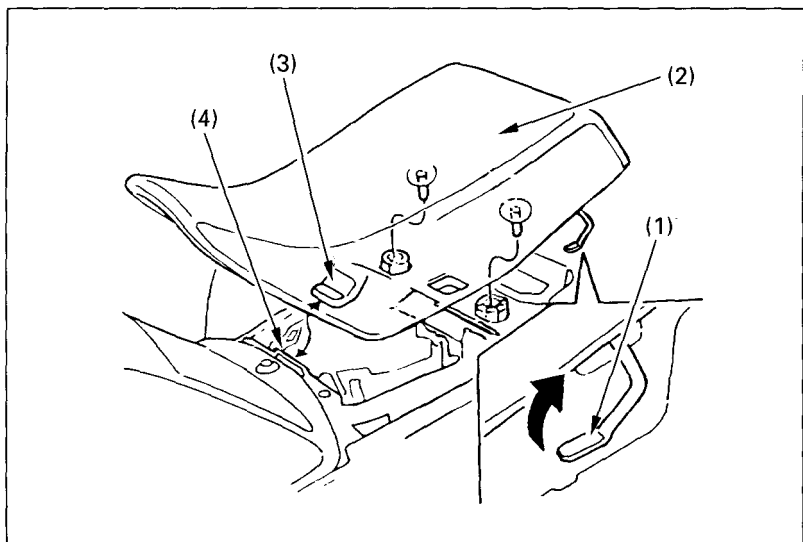

Fig. 4-35
To remove the seat (Fig. 4-35), pull up the seat lock lever (1) at the left side of the seat, then slide the seat backwards and lift it up.